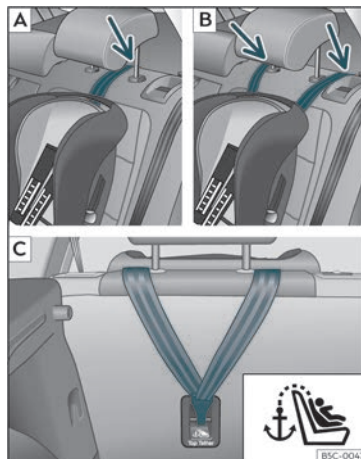
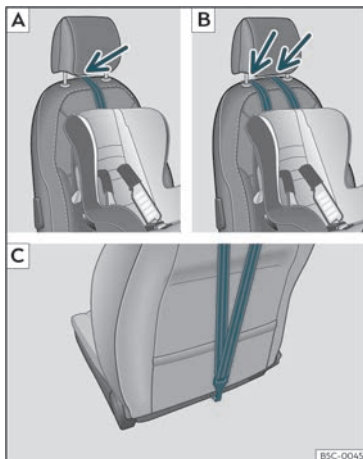

Fig. 33 Rear seats: adjustment and assembly according to the Top Tether belt.
Fig. 34 Front passenger seat: adjustment and assembly according to the Top Tether belt.
>>> **Fig. 33** [A]/[B], >>> **Fig. 34** [A]/[B].
- Slide the strap and secure it properly with the anchorage of the backrest >>> **Fig. 33** [C], >>> **Fig. 34** [C].